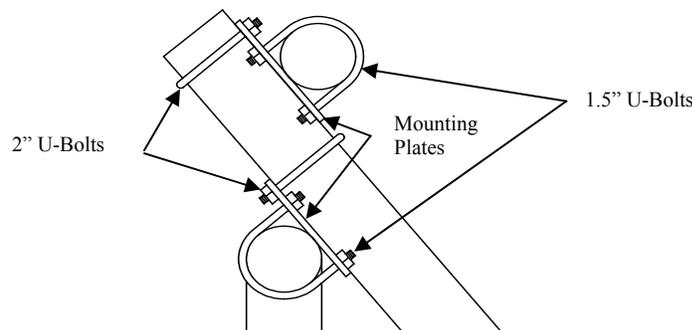

Figure 3-7 6511 U-Bolt Mounting
5. Loosely fasten two 1½" u-bolts on each mounting plate to the railing, orientated as shown in Figure 3-7.
6. Loosely attach the 2" u-bolts to the mounting plates, orientated as shown in Figure 3-7.